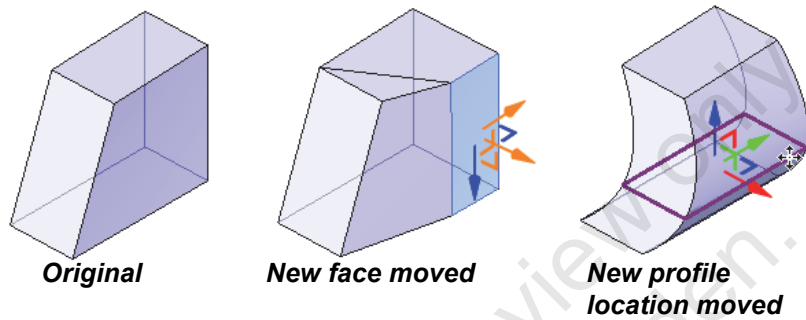

Figure 1–71
Once the edge or profile is placed, you can use the 3D control to create new shapes, as shown in Figure 1–71.
- If you cannot add an edge to a face,  displays, as shown in Figure 1–72.